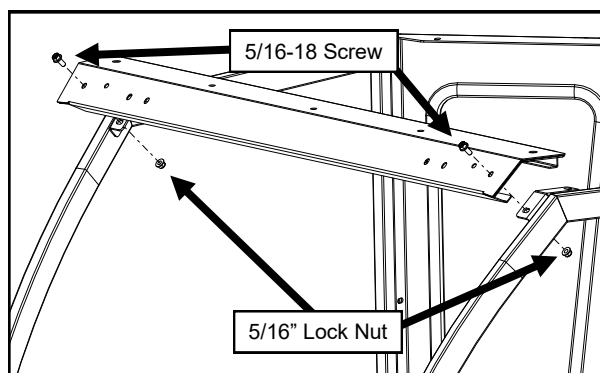

Fig. 10.1 (Windshield Support)
- 10.1 Position the windshield support across the side frames and install the front fasteners, snug only at this time. See Figure 10.1.